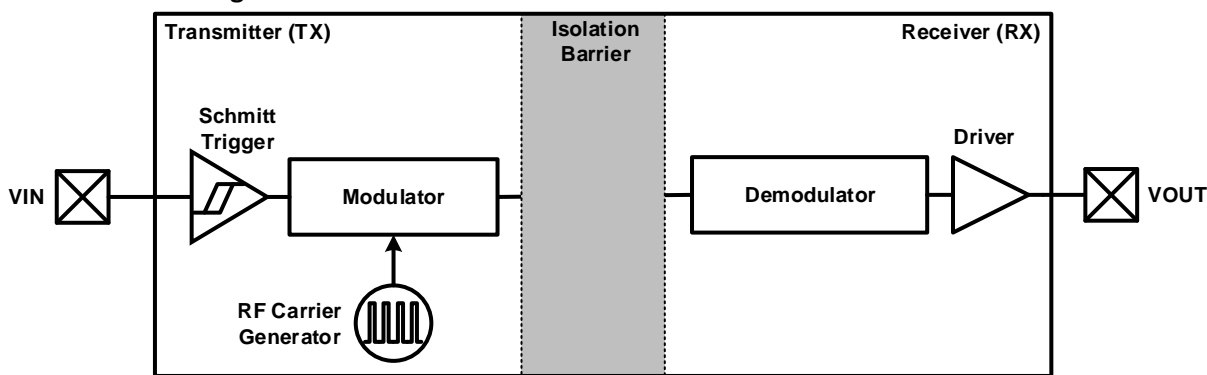
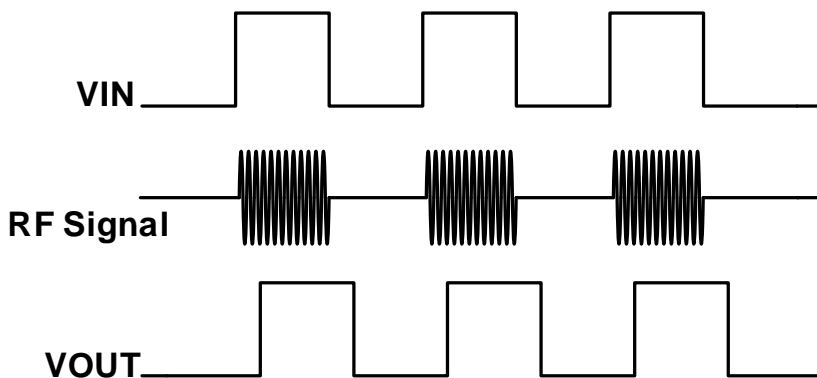

Figure 9-1 Functional Block Diagram of a Single Channel
Figure 9-2 Conceptual Operation Waveforms of a Single Channel
The CA-IS37xx family of devices use a simple ON-OFF keying (OOK) modulation scheme to transmit signal across the SiO₂ isolation capacitors that provide a robust insulation between two different voltage domain and act as a high frequency signal path between the input and the output. The transmitter (TX) modulates the input signal onto the carrier frequency, that is, TX delivers high frequency signal across the isolation barrier in one input state and delivers no signal across the barrier in the other input state. Then the receiver rebuilds the input signal according to the detected in-band energy. This simple architecture offers a robust isolated data path and requires no special considerations or initialization at start-up. The capacitor-based signal path is fully differential to maximize noise immunity, which is also known as common-mode transient immunity. Advanced circuitry techniques are applied for better EMI introduced by the carrier signal and IO switching. The capacitively-coupled architecture provides much higher electromagnetic immunity compared to the inductively-coupled one. And OOK modulation scheme eliminates the missing-pulse error that occurs in the pulse modulation method. A simplified functional block diagram and conceptual operation waveforms of a single channel is shown in Figure 9-1 and Figure 9-2.